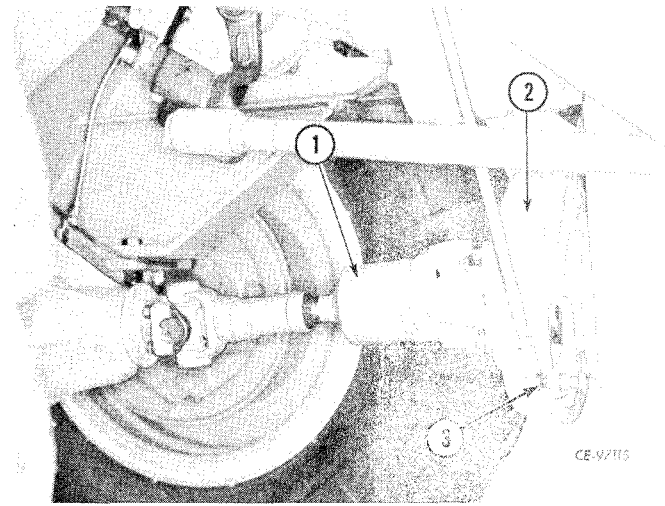

Figure 4-99
Connect parking brake linkage (3, Fig. 4-99) to parking brake (2). Install lower front drive shaft (1) to transmission.